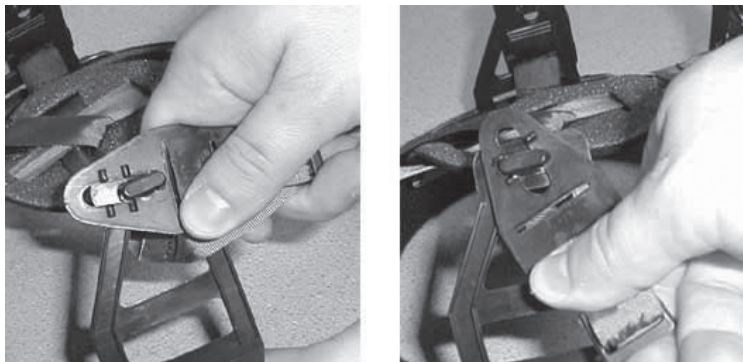

FIG. 5, FIG. 6
3. Set headband brackets to desired position, reinstall earneck and snap the four retaining tabs back into place. **(FIG. 5, 6)** Note: Front and back can be adjusted differently for more customized fit.